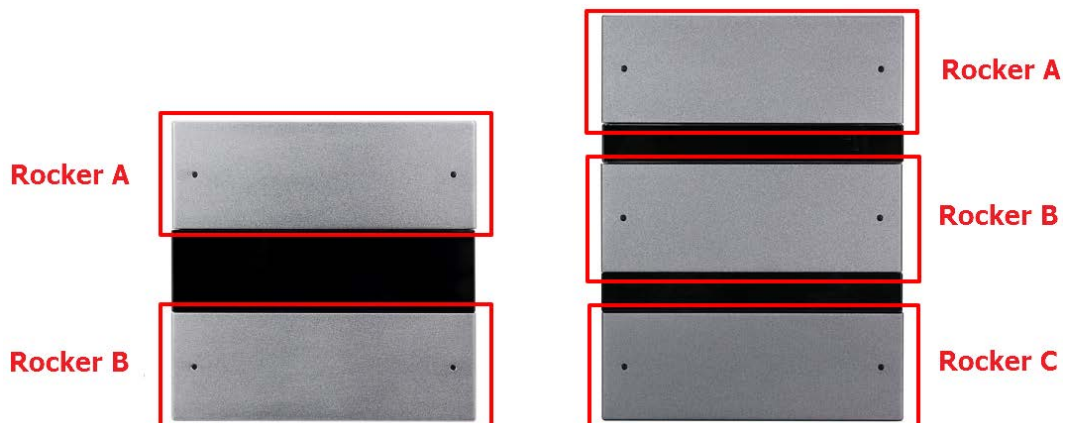

Figure 1-8 Button number
All button numbers in this user manual are subject to Figure 1-8.
- If selecting “Independent color”, buttons can be set in the same way above. The relationship between button name and button number in Figure 1-8 is as follows: “Rocker 1/2/3” corresponds to rocker A/B/C , “Rocker 1 left/right” corresponds to the left and right button of rocker A, and so on.